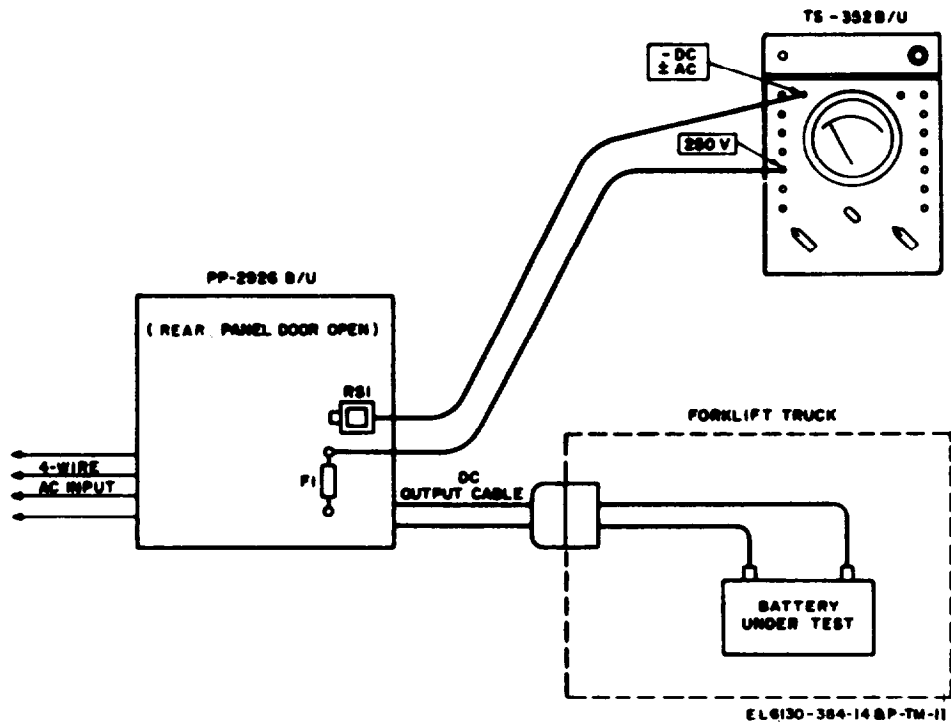

Figure 6-5. Performance test setup.
(fig. 6-5)
b. Test Connection and Conditions. Connect the equipment as shown in figure 6-5. Do not turn on input power to the PP-2926B/U until instructed to do so in e below. This test is for operation of the PP-2926B/U at 208-volt, three-phase input power.)